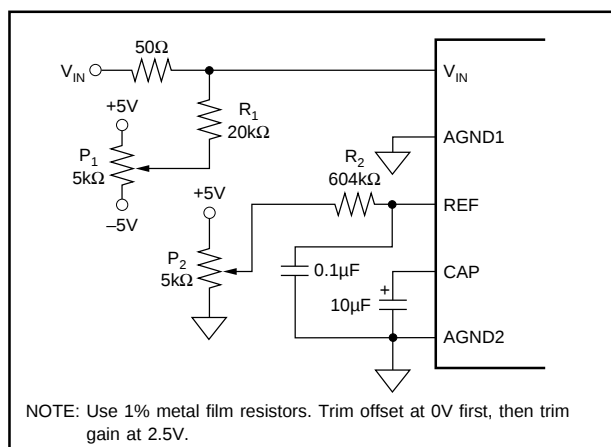
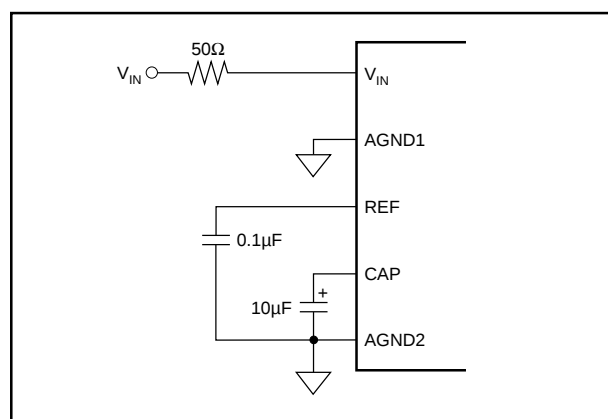
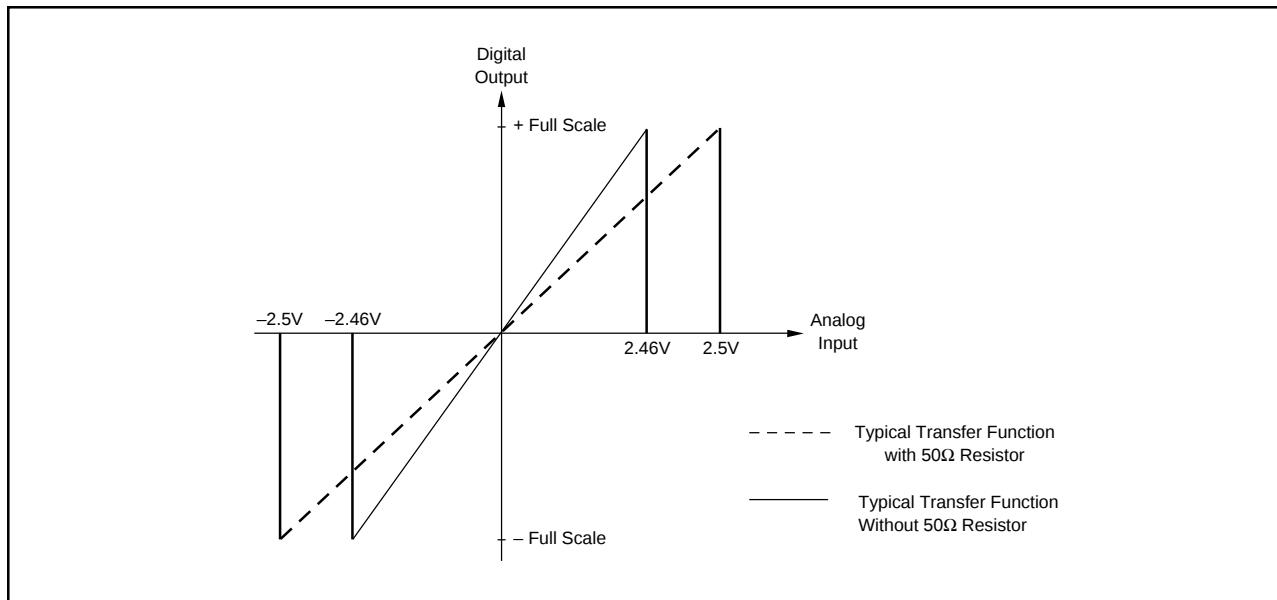

FIGURE 4a. Circuit Diagram With External Hardware Trim.
FIGURE 4b. Circuit Diagram Without External Hardware Trim.
FIGURE 5. Circuit Diagram With and Without External Resistors.
T = +25°C,  $f_S = 800\text{kHz}$ ,  $+V_{\text{DIG}} = +V_{\text{ANA}} = +5\text{V}$ ,  $-V_{\text{ANA}} = -5\text{V}$ , using internal reference and the input  $50\Omega$  resistors as shown in Figure 4b, unless otherwise specified.
$T = +25^{\circ}\text{C}$ ,  $f_s = 800\text{kHz}$ ,  $V_{\text{DIG}} = +V_{\text{ANA}} = +5\text{V}$ ,  $-V_{\text{ANA}} = -5\text{V}$ , using internal reference and the  $50\Omega$  input resistors as shown in Figure 4b, unless otherwise specified.
The ADS7819 has a  $\pm 2.5V$  input range. Figures 4a and 4b show the necessary circuit connections for the ADS7819 with and without external hardware trim. Offset and full scale error(1) specifications are tested and guaranteed with the 50 $\Omega$  resistor shown in Figure 4b. This external resistor makes it possible to trim the offset  $\pm 12mV$  using a trim pot or trim DAC. This resistor may be left out if the offset and gain errors will be corrected in software or if they are negligible in regards to the particular application. See the **Calibration** section of the data sheet for details.
To calibrate the offset and gain of the ADS7819, install the proper resistors and potentiometers as shown in Figure 4a. The calibration range is  $\pm 12\text{mV}$  for bipolar zero and  $\pm 30\text{mV}$  for full scale.
See Figure 4b for circuit connections. Note that the actual voltage dropped across the  $50\Omega$  resistor is nearly two orders of magnitude lower than the voltage dropped across the internal resistor divider network. This should be taken into consideration when choosing the accuracy and drift specifications of the external resistors. In most applications, 1% metal-film resistors will be sufficient.
The external  $50\Omega$  resistor shown in Figure 4b may not be necessary in some applications. This resistor provides trim capability for the offset and compensates for a slight gain adjustment internal to the ADS7819. Not using the  $50\Omega$  resistor will cause a small gain error but will have no effect on the inherent offset error. Figure 5 shows typical transfer function characteristics with and without the  $50\Omega$  resistor in the circuit.